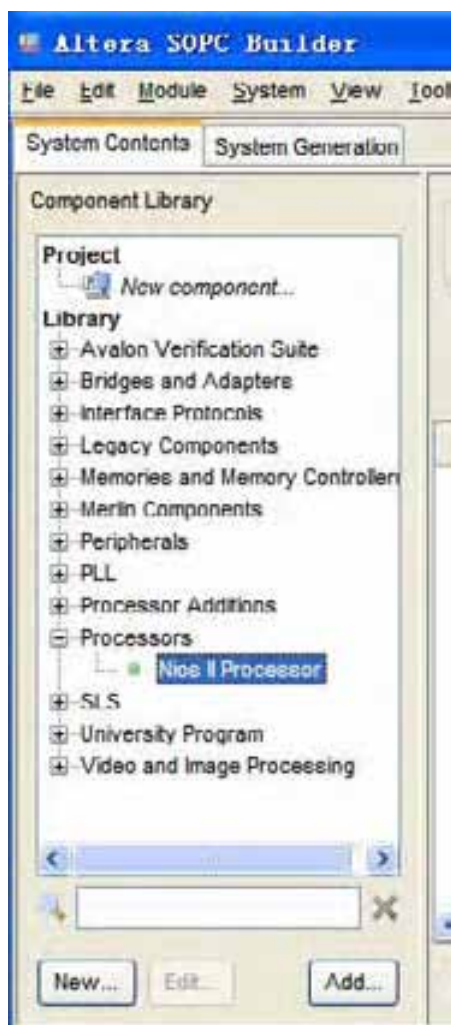
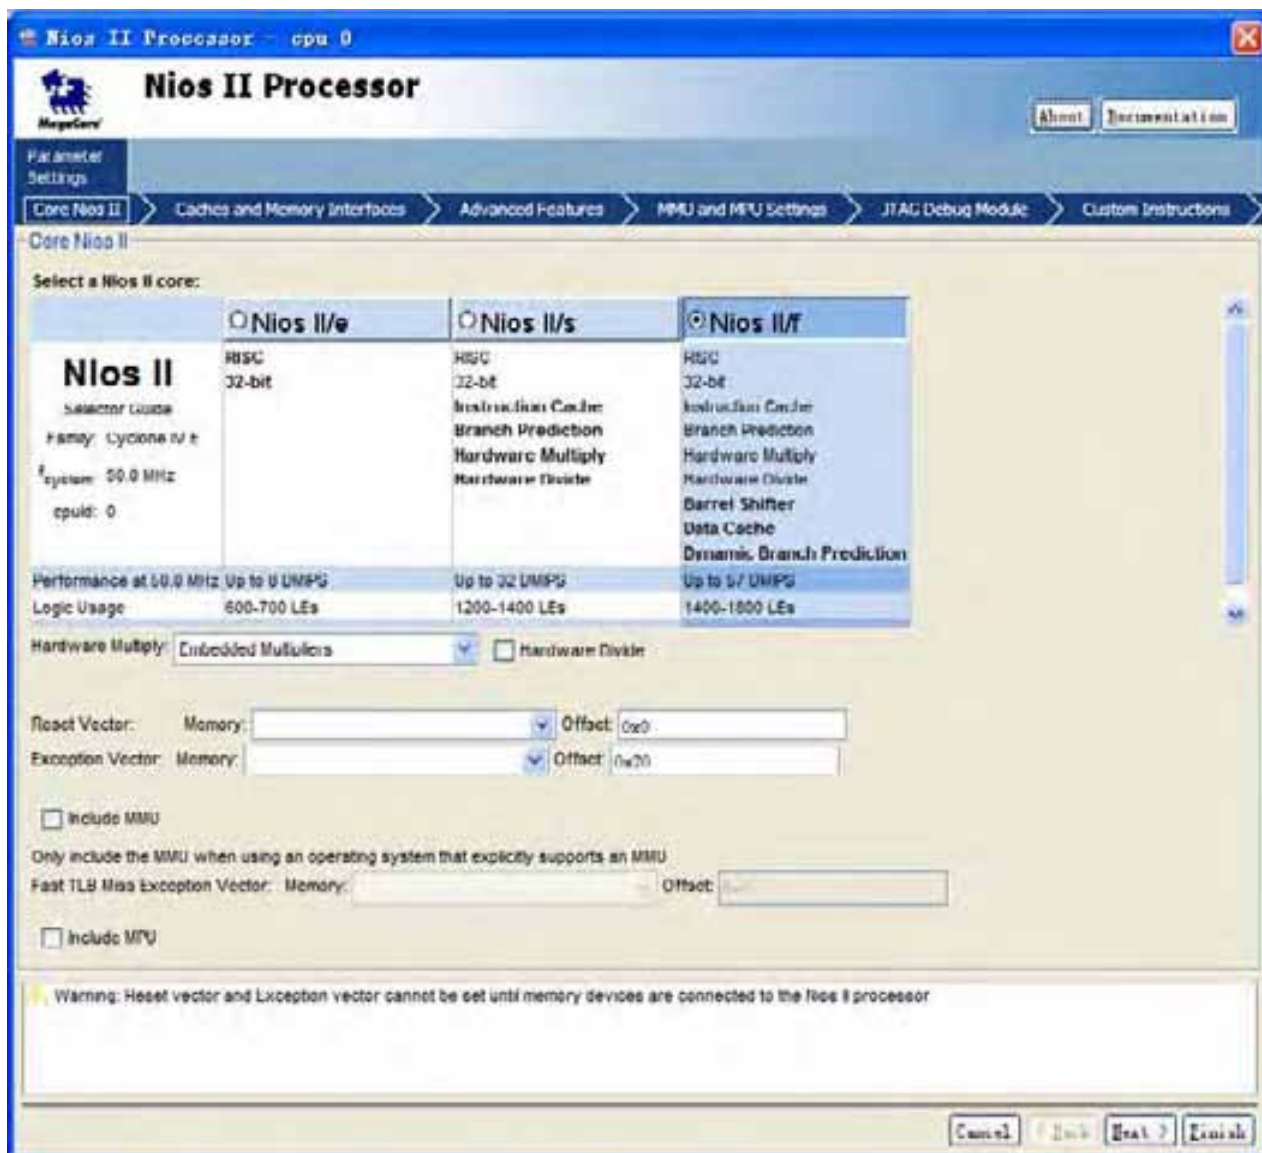

Figure 7-14 Add NIOS II Processor
Figure 7-15 Nios II Processor
8. In the left hand-side Component Library tree, select **Library > Processors > Nios II Processor** and click the **Add...** button to open the Nios II component wizard, as shown in Figure 7-14 and Figure 7-15.